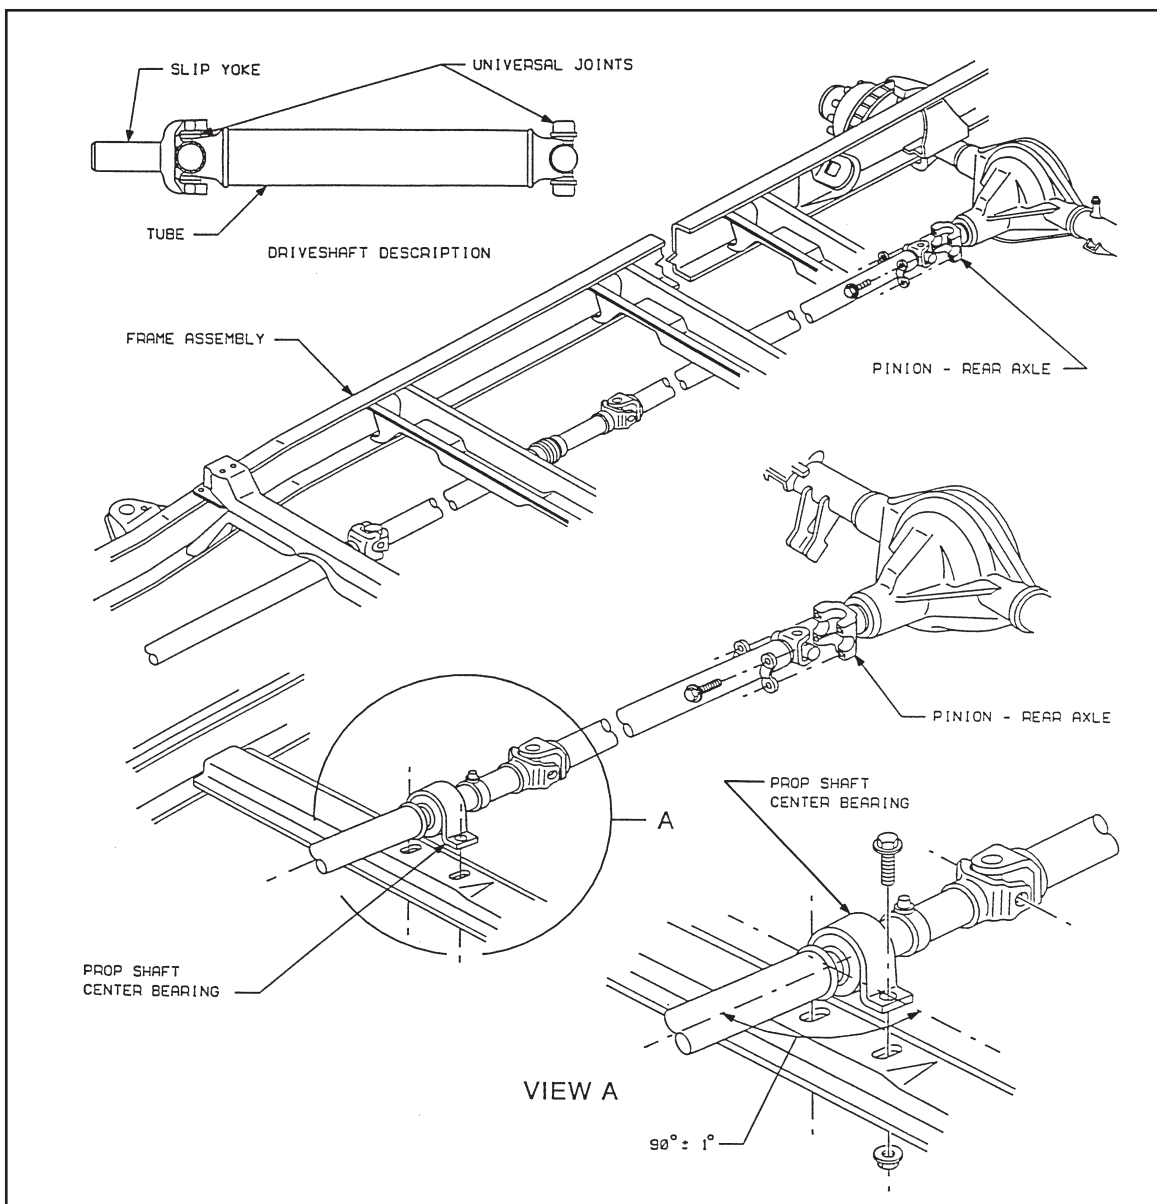

Figure 13
Welding is an excellent attachment or repair method. SVMs, however, must be very careful to use proper welding procedures. Inferior welds and improper methods can cause further frame damage and additional reinforcements may be required later to prevent the problem from recurring. Refer to the specifications table in Figure 13 for proper welding electrode identification and usage.
- **Plug Welding** — Plug (or ring) welds are good for attaching reinforcements because they eliminate the possibility of loose-fitting bolts. Be careful, however, to properly place plug welds in different types of reinforcements. GM highly recommends E-7018 electrode for plug welding because of its good penetration and light coating. Use high range of electrode current and appropriate voltage for flat or vertical plug welds. Overhead plug welding is very difficult. Do not use this method unless other approaches are impractical. Then use high range for first pass and complete plug at medium range. Refer to plug weld table (Figure 13) for hole size to use for material thickness variations.
The most important objective is to design driveshaft extensions that efficiently transfer power from the transmission to the rear axle assembly (Figure 13). For higher durability and reliability, General Motors recommends using only graphite driveshafts manufactured with driveline tubing.